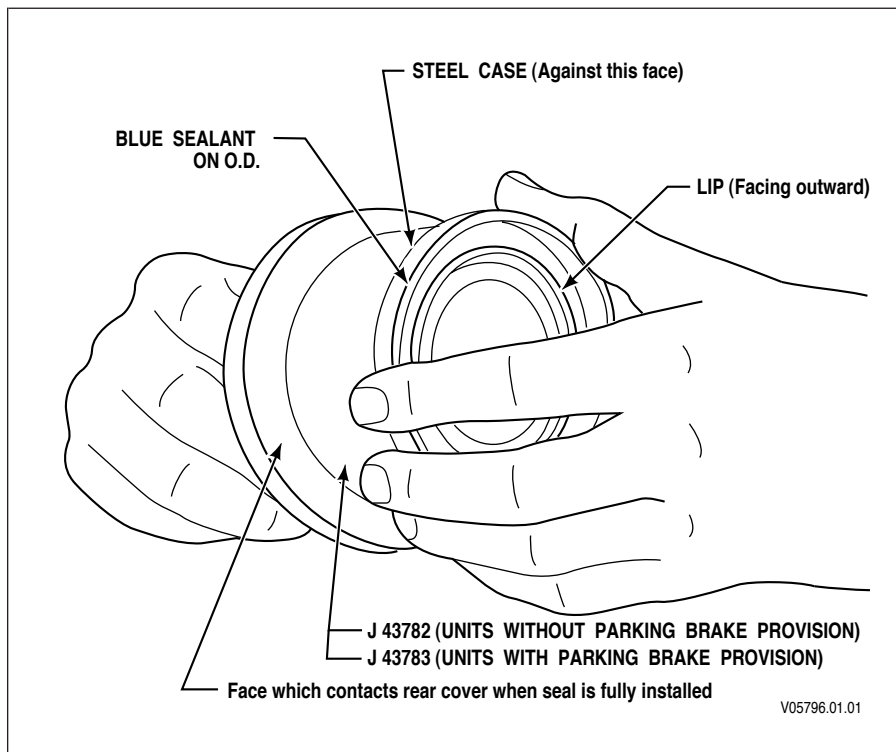

Figure 6–4. Positioning New Seal on Installer Tool
1. Remove the drain plug and sealing washer from the oil pan and allow the fluid to drain into a suitable container (refer to Figure 6–6). Refer to MT4007EN for fluid fill and check procedures.